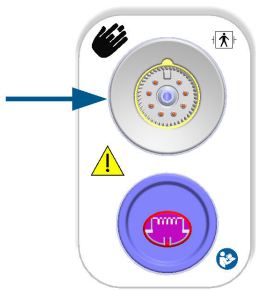

Figure 10-7: Pressure out to external monitor
2. Plug the compatible pressure-out (DPT) cable into the right panel of the monitor at the pressure out port. The pressure-out (DPT out) port is located below the ClearSight technology connection port. See (9) in Figure 10-7 on page 209.